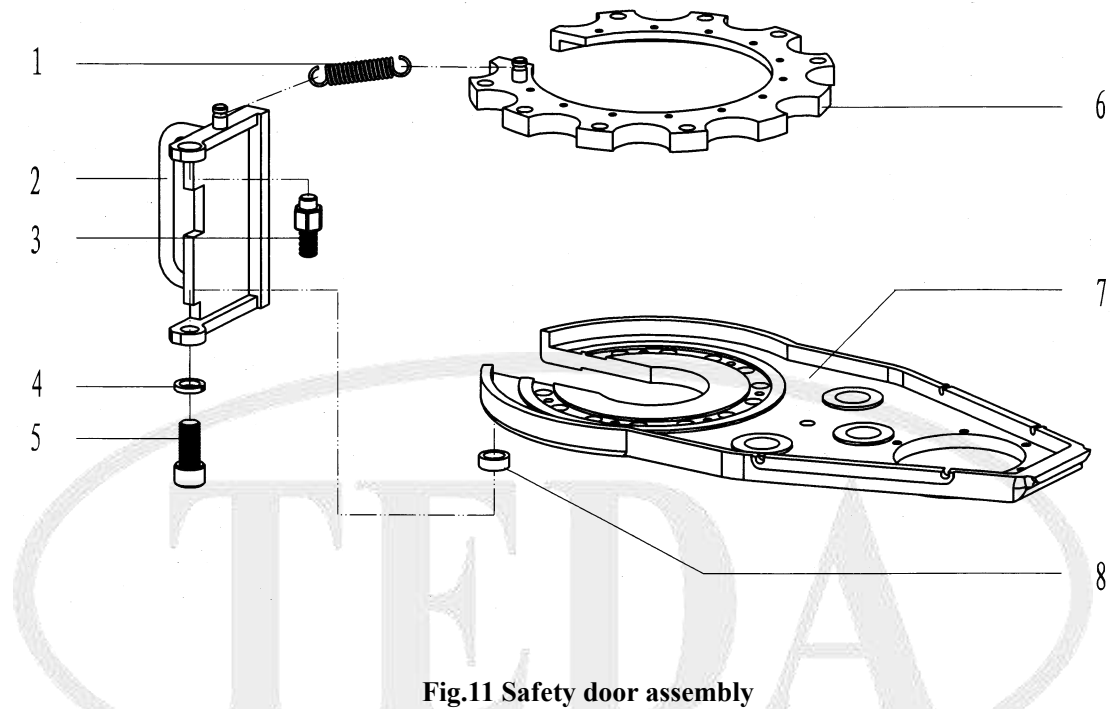

Fig.11 Safety door assembly
9.9 Safety door assembly and parts list (Fig.11, Table 9)